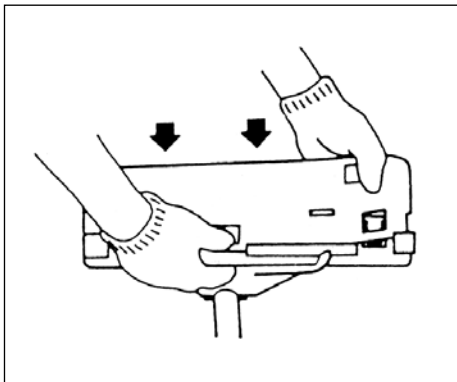

Fig. 1-9
When using a trimmer head (2) with two piece type blade guard, attach the guard extension to the blade guard. (Fig. 1-9)